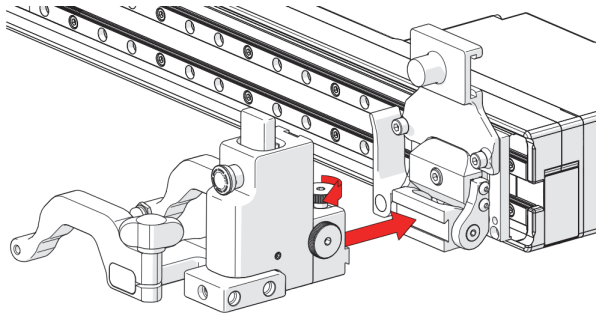

Figure 2-75 Mount probe holder to carrier
1. Loosen the probe holder adjustment knob, and mount the heavy duty vertical probe holder's dovetail jaw to the carrier (see Figure 2-75 on page 107).